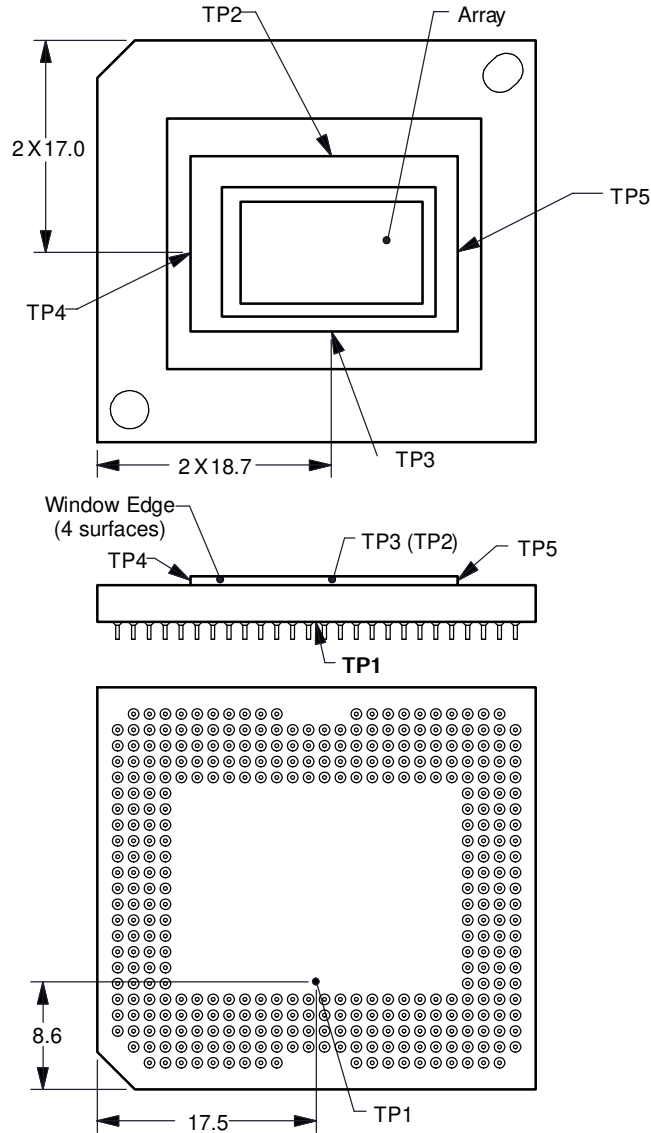

图 7-1. DMD Thermal Test Points
Micromirror array temperature cannot be measured directly, therefore it must be computed analytically from measurement points on the outside of the package, the package thermal resistance, the electrical power, and the illumination heat load. The relationship between array temperature and the reference ceramic temperature (thermal test TP1 in 图 7-1) is provided by the following equations:
- T_{CERAMIC} = measured ceramic temperature ($^{\circ}\text{C}$), TP1 location in Figure 7-1
- Q_{ARRAY} = total DMD Power on array (W). (electrical + absorbed)
- $Q_{\text{ELECTRICAL}}$ = Nominal DMD electrical power dissipation (W)